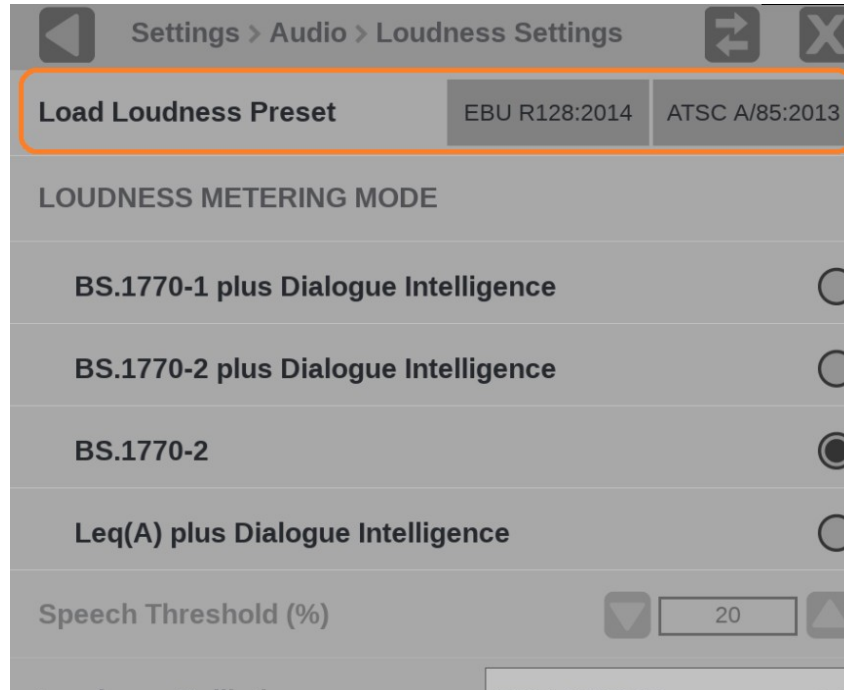

Figure 57: Loudness Settings with the Loudness preset options marked
4. Load a standard preset: Select **EBU R128:2014** or **ATSC A/85:2014** for a pre-defined set of loudness metering configuration. (See Figure 57.)